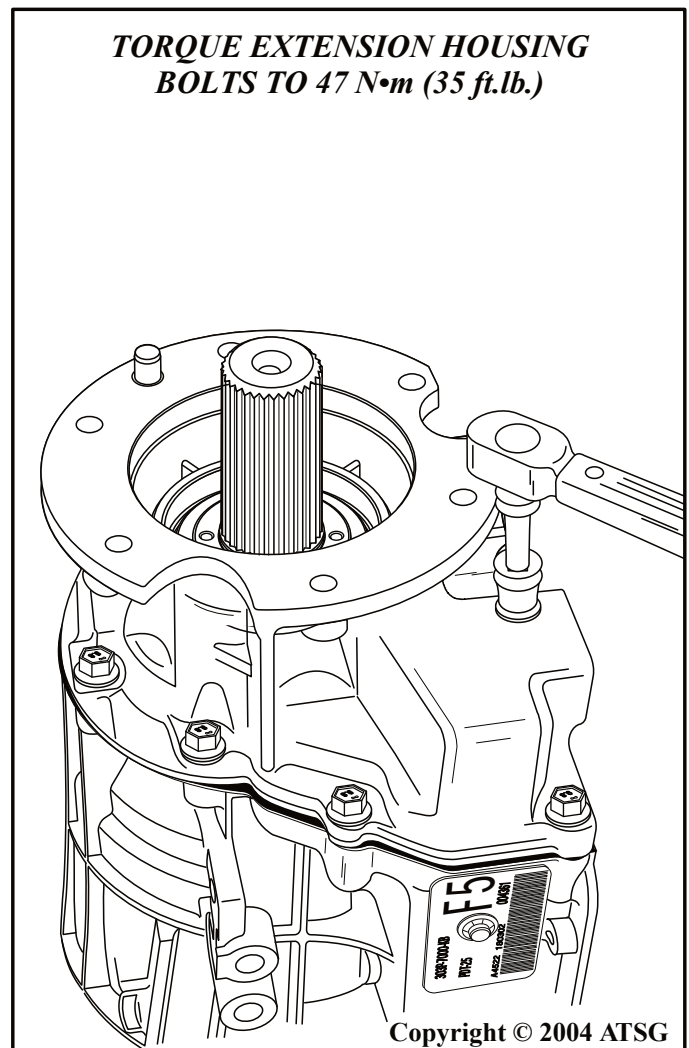

Figure 69
31. Torque all of the extension housing bolts to 47 N•m (35 ft.lb.), as shown in Figure 69.